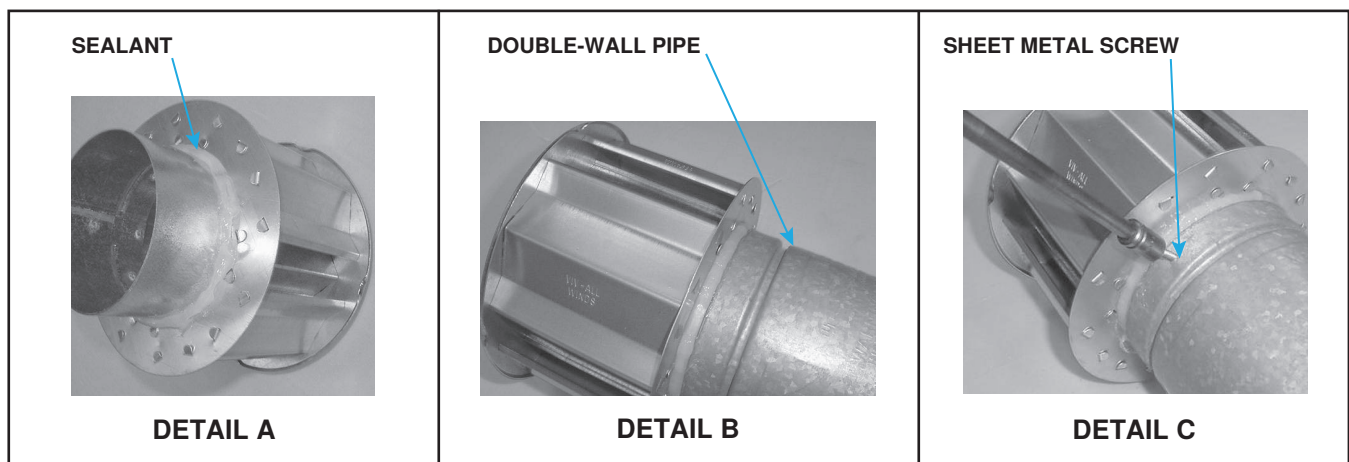

Figure 9. Connecting Double-Wall (Type B) Pipe to Single-Wall or Category III Vent Pipe
- a. Apply continual 3/8-inch bead of silicone sealant around circumference of vent cap collar (see Figure 9, DETAIL A) to prevent any water inside vent cap from running down double-wall pipe.
- b. Before sealant has any time to dry, insert collar on vent cap as far as possible inside inner wall of double-wall pipe (see Figure 9, DETAIL B).
- d. Secure vent cap to double wall pipe by drilling hole and inserting 3/4-inch-long sheet metal screw into vent cap collar (see Figure 9, DETAIL C). Do not overtighten screw.
- d. **To seal the joint between the terminal section of double-wall vent pipe and a single-wall or Category III vent pipe:** follow the illustrated step-by-step instructions in Figure 9. Make this connection no more than 6 inches (152 mm) from the concentric adapter box.